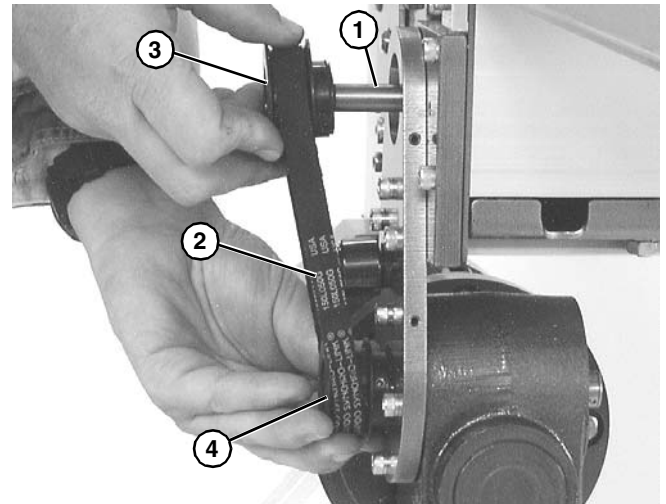

Figure 9
- Install key (**Figure 9, item 1**).
- Wrap timing belt (**Figure 9, item 2**) around driven pulley (**Figure 9, item 3**) and drive pulley (**Figure 9, item 4**). Install driven pulley (**Figure 9, item 3**) onto conveyor shaft.